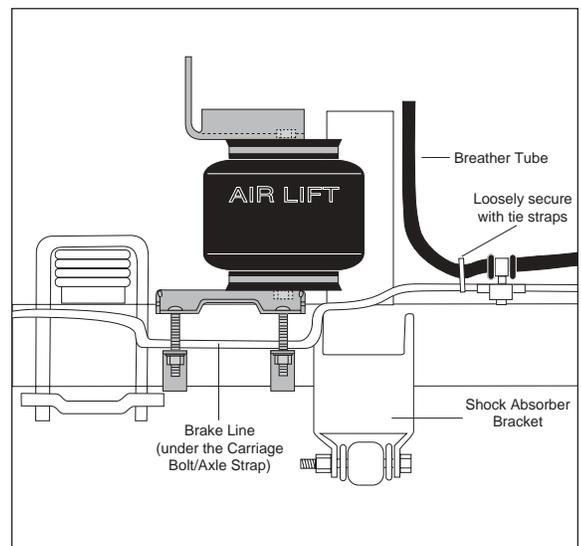

Figure 6
NOTE for Non-Disc Brake Models Only: The brake line should be between the carriage bolt and the axle housing (Figure 6).
- On the Driver Side Only: Secure the breather tube away from the bellows using provided tie straps (BB). Refer to Figure 6.
- With the unit aligned vertically and horizontally, tighten the lower assembly to the axle housing. It is important to tighten the forward straps to the lower bracket first, and then the back. Tighten the lock nuts (J) to 16 ft-lbs.